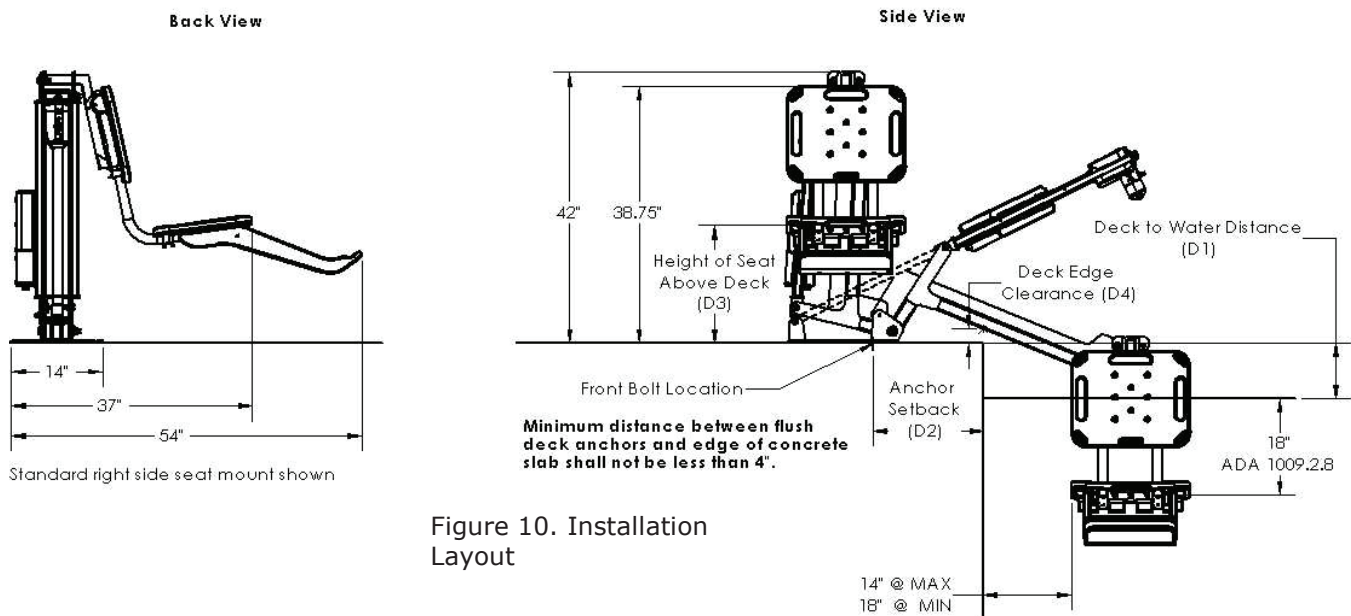

Figure 10. Installation Layout
The ML300 has a mast height of 42 in / 106.6 cm above the deck. It is intended to be used with simple pool gutter configurations having a deck to water distance of no more than 8 inches, see Table 1 and Figure 10 to determine if the ML300 will work on a specific pool. The maximum weight capacity for ML300 is 300 lb/136 kg. Only persons healthy enough for water activities should use the ML300. Users should consult with their physician to determine if water activities are appropriate for the user.
12. Attach seat assembly with bolt and thumbnut in appropriate hole. Refer to **Figure 10** and **Table 1** to determine the correct seat mounting hole to use. Also see **Figure 6**.
The optimal mounting distance for the deck front anchors is 12.5"/ 31.75 cm from the edge of the pool. The front anchors can be installed up to a maximum of 17"/43.18 cm from the edge of the pool, but the deck edge clearance decreases the farther the lift is installed from the pool edge. The setback distance from the pool edge to the front anchor locations varies depending upon pool geometry. The ML300 is designed to be used with simple pool edge designs with deck to water level differences of 0" to 8" maximum. Review **Figure 10** and **Table 1** to determine the correct seat mounting location and anchor installation setback for your pool.
- Use **Figure 10** and **Table 1** to determine the proper location to install the lift, making certain that the front anchors are located the correct distance from the pool edge.
2. Use **Figure 10** and **Table 1** to determine the proper location to install the lift, making certain that the front anchors are located the correct distance from the pool edge.